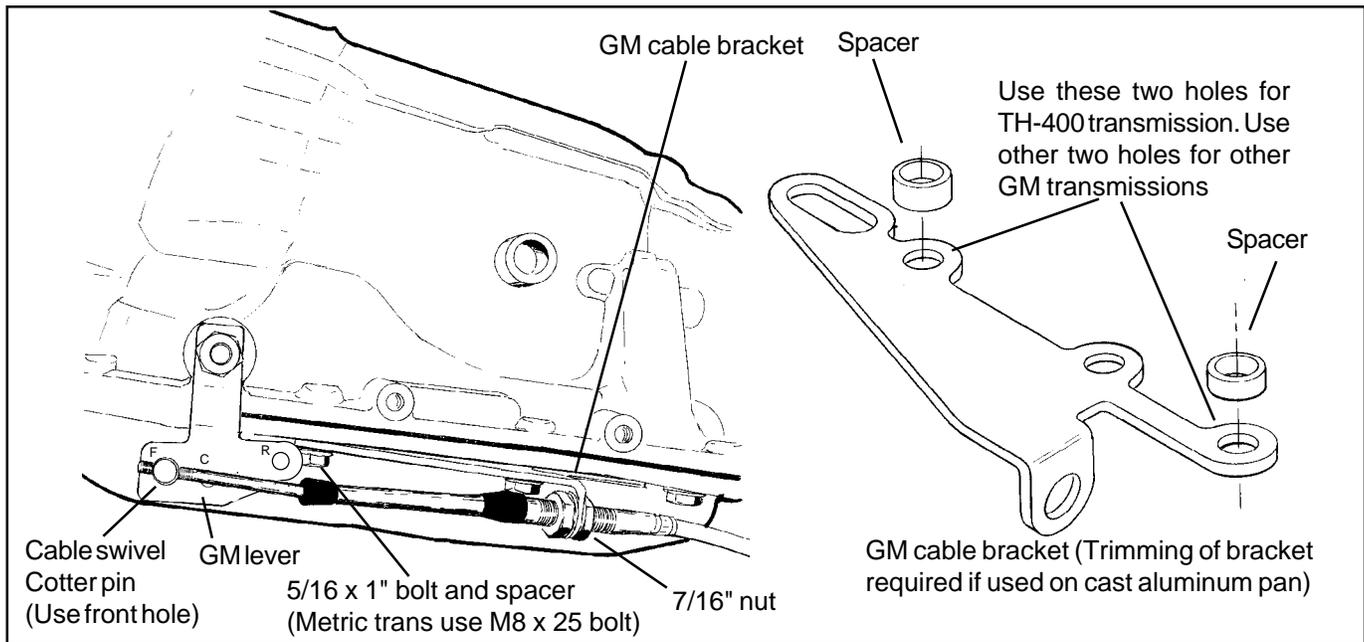

Figure 3
STEP 8. If you have not already done so, remove the stock selector lever nut and the selector lever. Discard the stock lever and the stock shifter linkage. Install the **B&M** selector lever in position. Install the stock selector lever nut and tighten securely (**See Figure 3**). The lever must be installed so it can travel its full arc equally in both directions across the center. If the lever is installed backwards, the swivel will hit the oil pan during the rearward travel arc. The lever should travel smoothly from front to back with a positive click in each gear position.
STEP 9. Remove the two transmission oil pan bolts from the middle of the left side of the oil pan. Install the cable bracket in position (See Figure 3). The bracket must be installed with two spacers between the pan and the bracket. (If your transmission is equipped with a cast aluminum oil pan, these spacers should be omitted however the cable bracket may have to be modified.) Install the two 5/16"-18 x 3/4" bolts supplied and tighten to 12-13 lb-ft. If your transmission has metric bolts install the two 8mm bolts. Do not overtighten as this can damage the pan gasket.